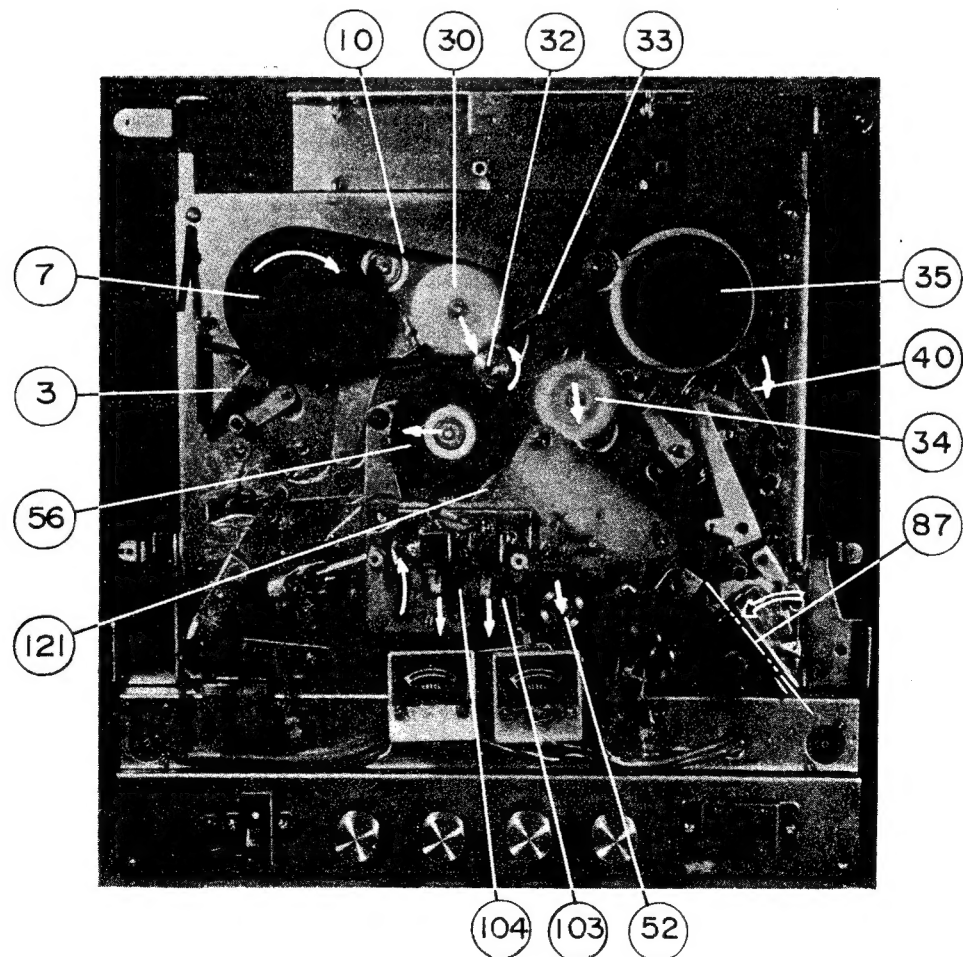

Figure 6
(4) REWIND (Refer to Figure 6)